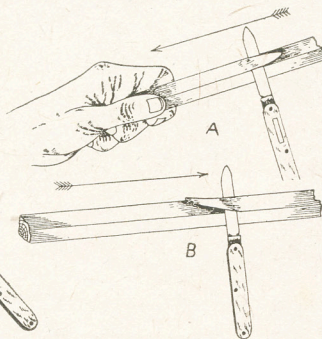

Fig. 2—Cutting a stick
of using a pocket knife is indicated in Fig. 2. This shows the knife being used to cut a stick of wood, and the method indicated at (A) should not be used. The knife is here again cutting towards the fingers of the hand holding the stick, in the direction of the arrow. Any slight slip of the blade will result in a cut finger or thumb.
When cutting a stick, use the method indicated in view Fig. 2 (B), which shows the knife blade cutting away from the hand holding the stick. A general rule for using the knife, is always to cut in a direction away from the hand which is holding the object to be cut.